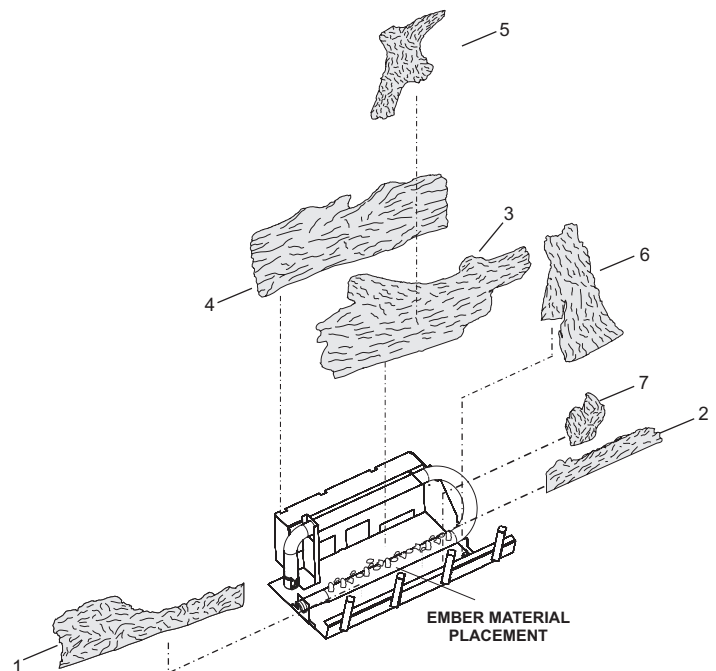

Figure 57
The positioning of the logs is critical to the safe and clean operation of this fireplace. Sooting and other problems may result if the logs are not properly and firmly positioned in the firebox. Please refer to **Figure 56** and **Figure 57** and corresponding WARNING when completing following log placement instructions.
7. Place right "Y" branch along side of middle log as shown in Figure 57.
11. After all logs are positioned properly, apply Rockwool ember material to the front burner port area. To apply, carefully separate the ember material into small amounts no larger than "dime size" pieces. Fluffed up pieces one layer thick on top of the burner generally works best, and will provide the best ember glow. Do not place ember material more than one layer thick. No more than (1) small packet of ember material (part no. 15999) evenly placed on the burner, is recommended on DVCD32 and DVCD36 models. Using additional ember material will decrease the amount of ember glow effect. Extra ember material should be saved for future ember applications as necessary. See Figure 57.
**Attention:** Do not use Figure 56 or Figure 57 to order logs. Refer to parts list on pages 50 - 51 and parts view on page 52 to order logs and/or ember material for your appropriate fireplace model.